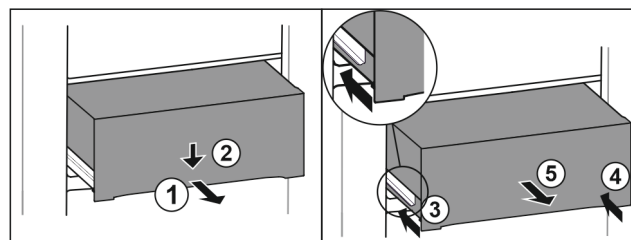

Fig. 114
- ▶ Pull out the drawer halfway. Fig. 114 (1)
- ▶ Press down the drawer on the front. Fig. 114 (2)
- ▶ Push in the left rail approximately 2 cm (13/16 in). Fig. 114 (3)
- ▶ Push in the right rail approximately 2 cm (13/16 in). *Fig. 114 (4)*
- ▶ Remove drawer to the front. *Fig. 114 (5)*